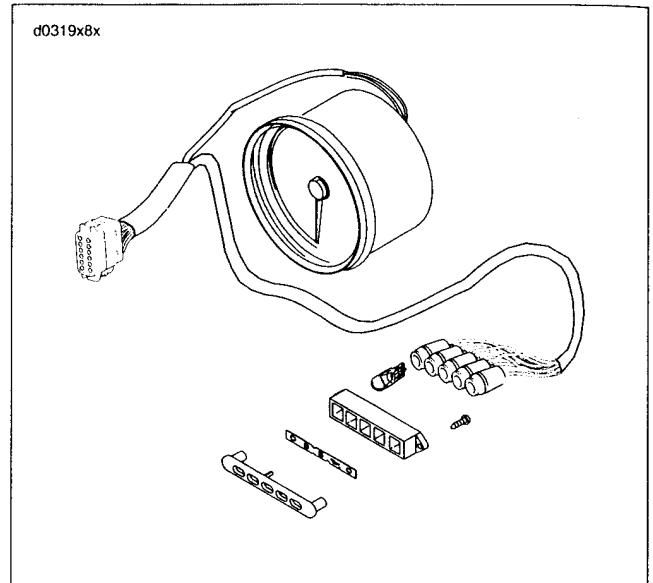

Figure 8-60. Indicator Lamps: FXD, FXDX and FXDXT
- a. FXD, FXDX and FXDXT models: disconnect indicator lamp connector [20]. Remove wires from connector. See Figure 8-60.